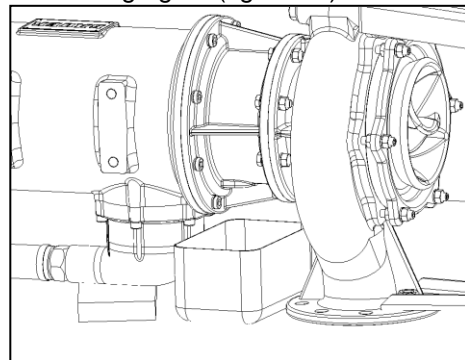

Figure 9
2. Drain off the oil (figure 9).